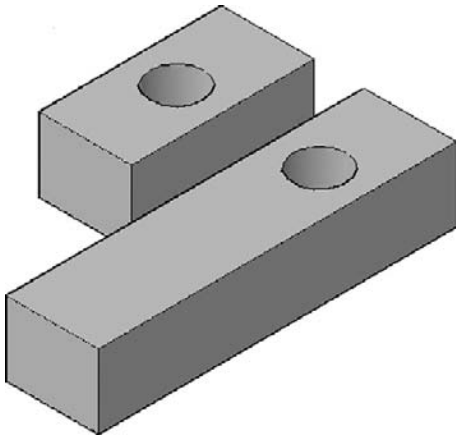

FIGURE 26.21
- Step 2.** AutoCAD once again runs through the lengthy solid editing menu and asks you to select a face. Pick the face you want to offset and press Enter. AutoCAD then asks you to specify the offset distance. Enter some value, and you see the result, similar to what is shown in Figure 26.21.